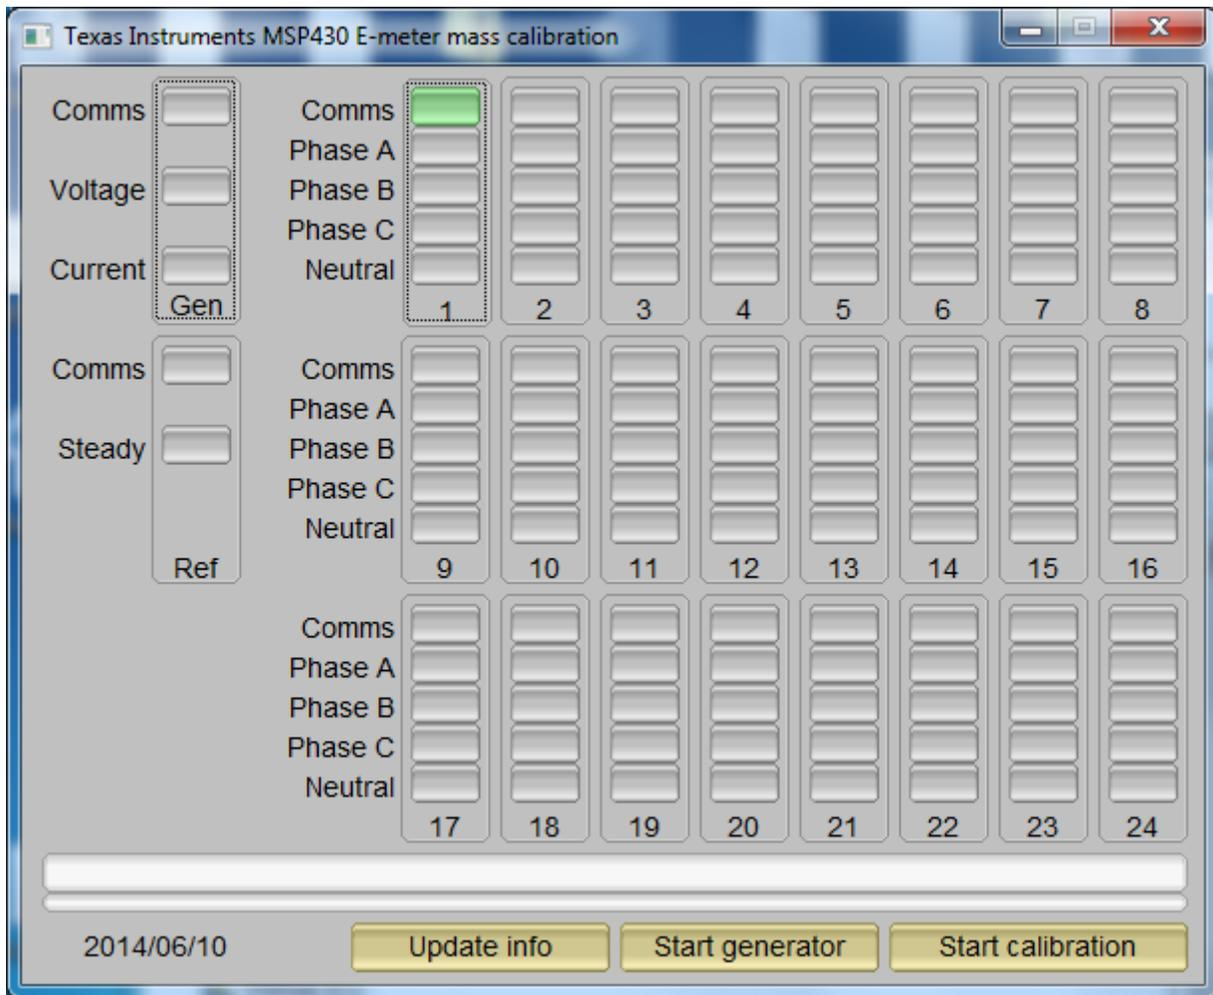

Figure 27. GUI Startup Window (Snapshot of GUI Screen)
4. Run the `calibrator.exe` in the `/Source/GUI` folder. If the COM port in the `calibration-config.xml` has been changed in the previous Step 3 (the com port connected to the measurement module), the GUI opens (see the following Figure 27).